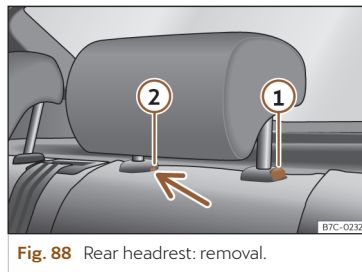

Fig. 88 Rear headrest: removal.
- Press button >>> **Fig. 88** ①, while simultaneously pressing on the safety hole ② with a flat screwdriver a maximum of 5 mm wide, and remove the headrest.